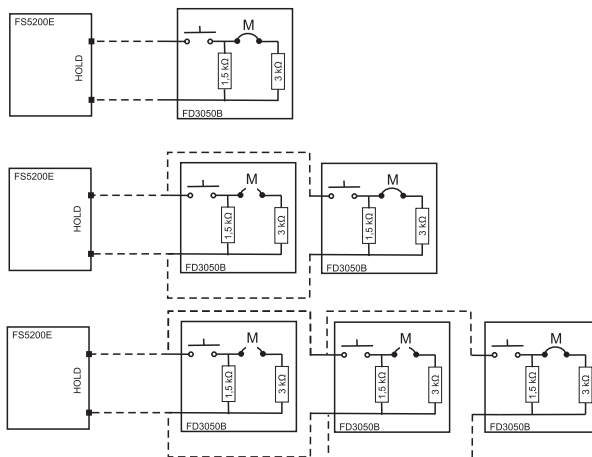

Fig.2a/2b/2c
The button has one normally open contact and built-in resistors of 1,5 kΩ and 3 kΩ. The 3 kΩ resistor is connected through a bridge (pos.8, fig. 1a). When pressing the button, the contact is closed and commutates circuit through the resistors and the bridge. When the button is not the last one (i.e. there are buttons of the same type after it - fig.2b, 2c) it is necessary to cut the bridge (pos.8, fig.1a). When the button is located at the end of the line or we have only one button on the line (fig.2a), the bridge is not cut.
The button has a built-in switcher with one normally open contact and resistor of 1,5 kΩ. When pressing the button, the contact is closed and commutates circuit through resistor of 1,5 kΩ. When the button is situated at the end of the line, it is necessary to connect end of line resistance 3kΩ to terminals "+" and "-" (fig. 2a, 2b, 2c).